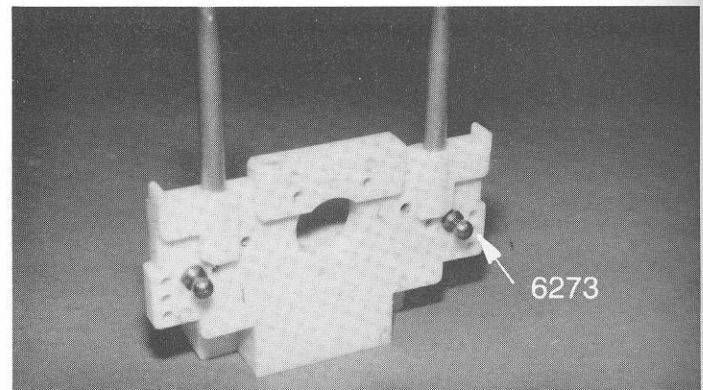

Fig. 79
□ **Fig. 79** Remove two #6273 long steel ball ends from bag #6-14. We are going to install these into the rear bulkhead from the back side. There are five mounting holes on each side of the bulkhead for the tie-rod locations. You are going to use the middle of the top three holes as shown.